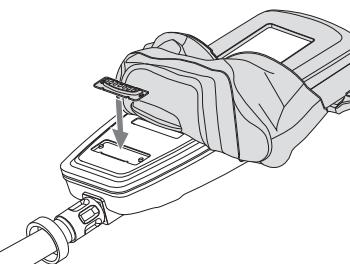

Fig. 53 Fitting the LED protective cover
10. Fit the protective cover over the LED panel (Fig. 53).
Ensure that the cover is orientated as shown, with the notch towards the bottom of the screen and the part number facing upwards (Fig. 53).